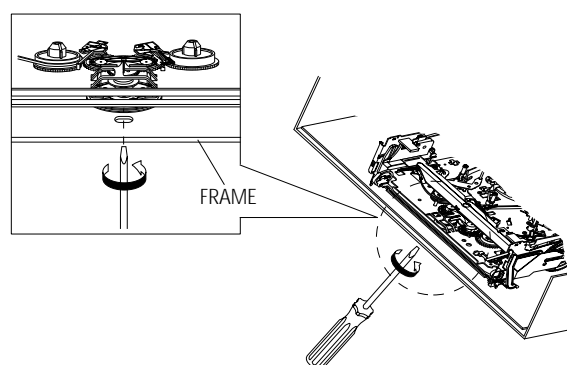

Fig. 4-40
- 2) When Slider S,T are approached in the position of unloading, rotate holder Clutch counterclockwise after inserting screw driver in the hole of frame's bottom in order to wind the unwinded tape. (Refer to Fig.4-40)